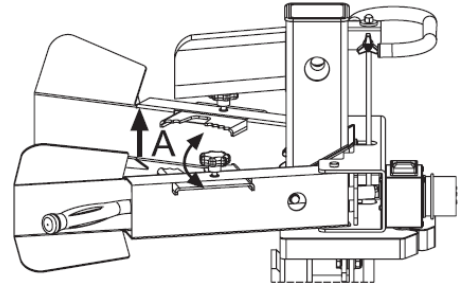

Fig.11a
- b) Adjust the Log Holders Claws (A) according to the diameter of the log to obtain most comfortable Control Levers angle (Fig.11a).
- c) Hold the log with clamping brackets closely in the control lever guards (Fig.11a).
- d) Never open clamping brackets while ram is moving (Fig.11a)